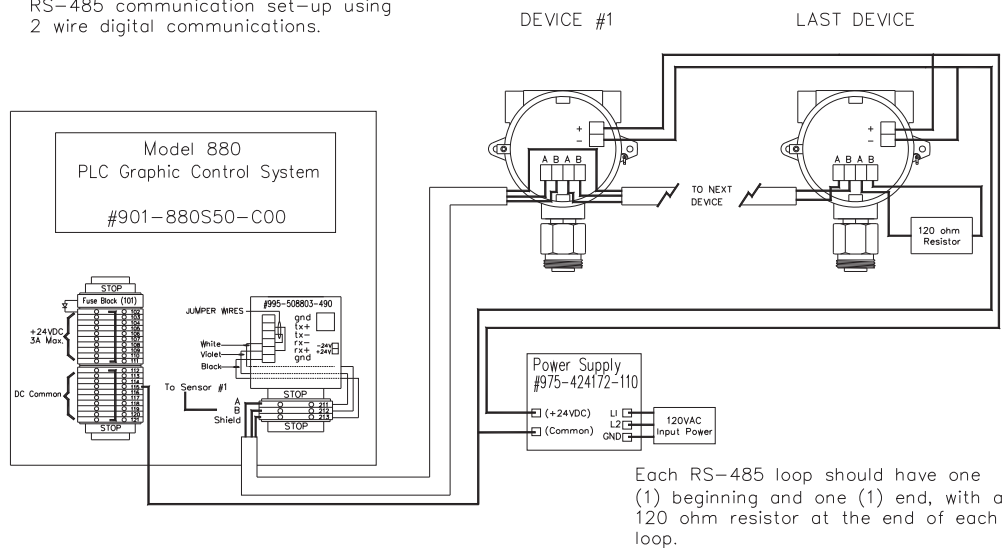

Figure 40 Recommended RS-485 communications set-up
Figure 40 shows a typical RS-485 communication setup using 2-wire digital communication. Each RS-485 loop should have (1) beginning and (1) end, with a 120-ohm resistor at the end of each loop.